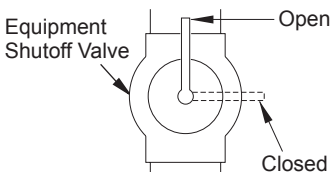

Figure 16 - Equipment Shutoff Valve
1. Close equipment shutoff valve (see Figure 16).
1. Open equipment shutoff valve (see Figure 16).
3. Close equipment shutoff valve (see Figure 16, page 13).